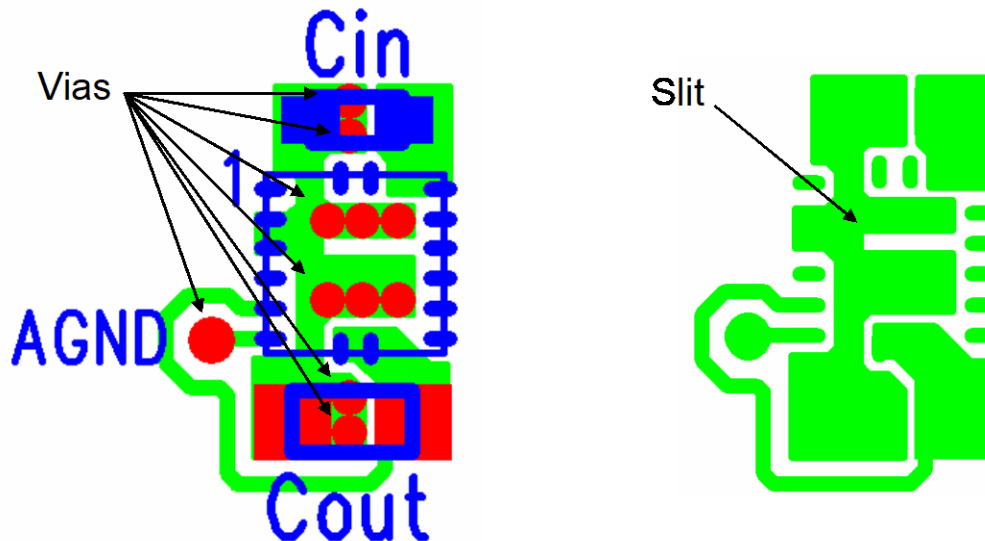

Figure 8: PCB Layer Critical Components and Copper for Minimum Footprint
Figure 8 shows critical components and layer 1 traces of a recommended minimum footprint EP5388QI layout. ENABLE configurations and other small signal pins need to be connected and routed according to specific customer application. Please see the Gerber files on the Intel website [www.intel.com/enpirion](http://www.intel.com/enpirion) for exact dimensions and other layers. Please refer to Figure 8 while reading the layout recommendations in this section.
**Recommendation 3:** The surface layer ground pour should include a “slit” as shown in Figure 8 to separate the input and output AC loop currents. This will help reduce noise coupling from the input current loop to the output current loop.